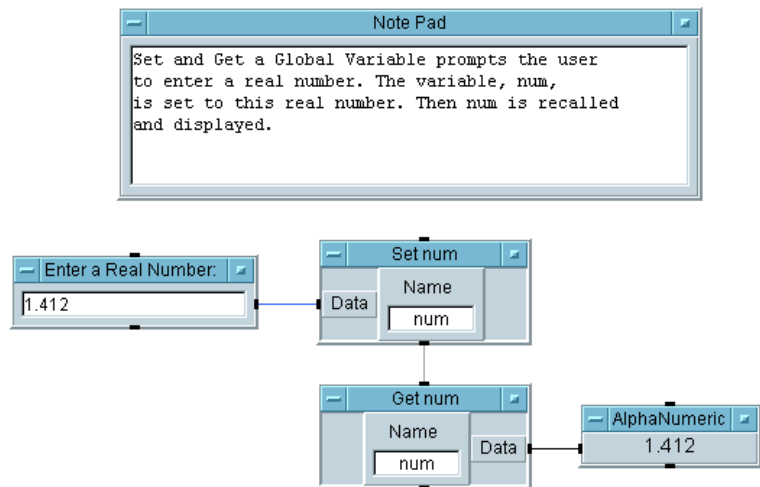

Figure 2-34. Set and Get a Global Variable
10. Enter a real number and click the run button on the tool bar. The program should look similar to Figure 2-34.